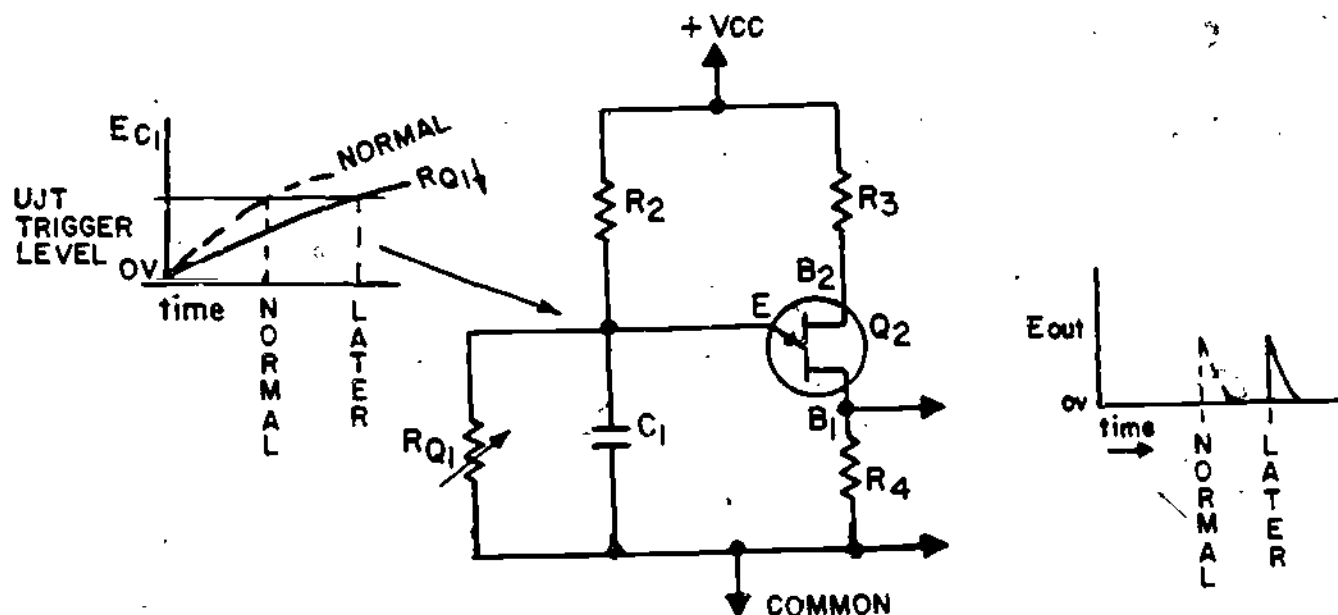

Figure 6
9. So far we have concentrated on the effect of the charge and discharge of C_1 in the pulse generator circuit. We will now see how Q_1 affects the pulse generator circuit. Refer to the schematic shown in Figure 6 and the waveforms which are associated with this schematic.
The waveforms shown on the left of Figure 6 indicate the trigger time of the UJT under normal operating conditions (dotted) and when the output voltage of the power supply is increased (solid).